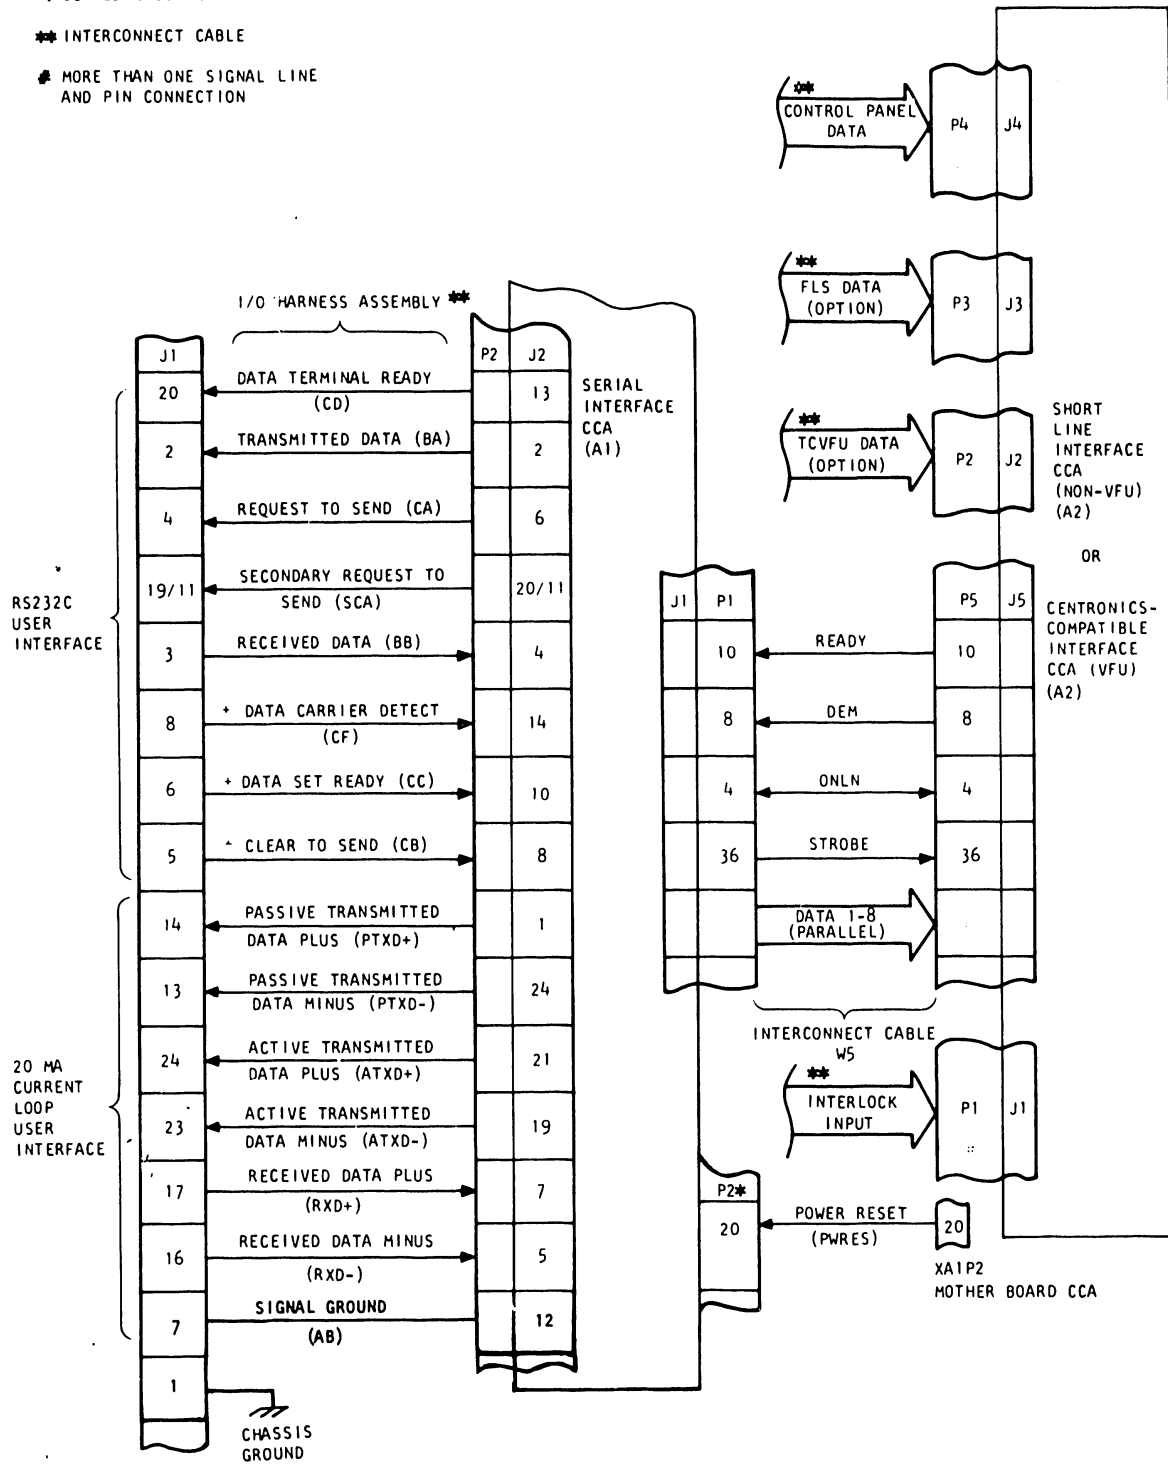

Figure 2-9. Serial System Interface Components
The Serial system interface is made up of three (3) assemblies: an I/O Harness, a Serial Interface CCA which is edge-connected to the spare slot of the Mother Board CCA, and an Interconnect Cable Assembly. A parallel interface circuit card assembly, either short line for non-VFU or Centronics-Compatible for VFU operation, is also installed in its normal slot in the electronics card cage. **Figure 2-9** shows the interconnection of the components of the Serial system interface configuration.